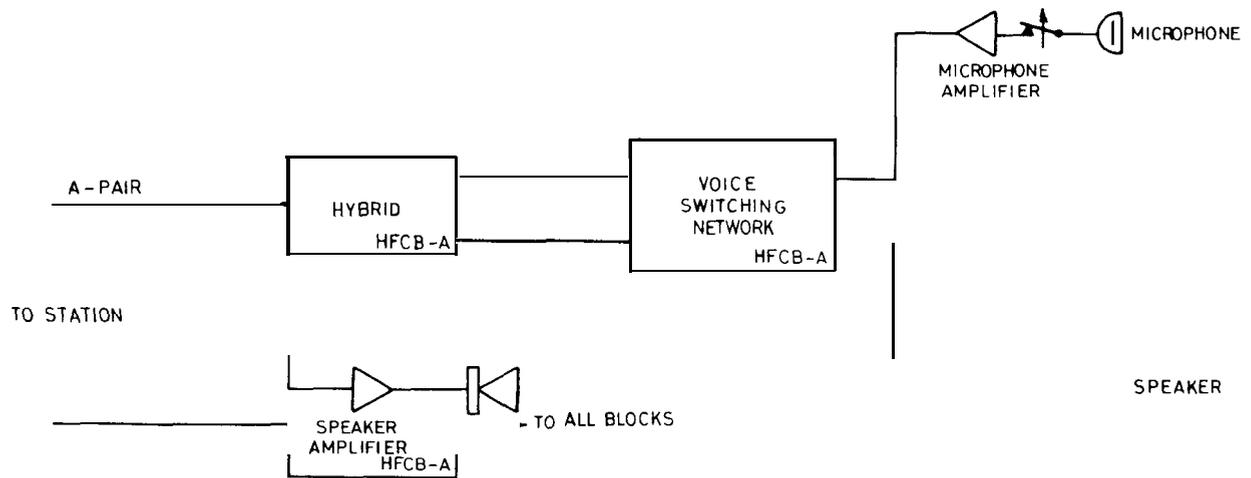

FIGURE 13 HANDSFREE CONSOLE BLOCK DIAGRAM
1.4.3.5 Handsfree Console (Figure 13)